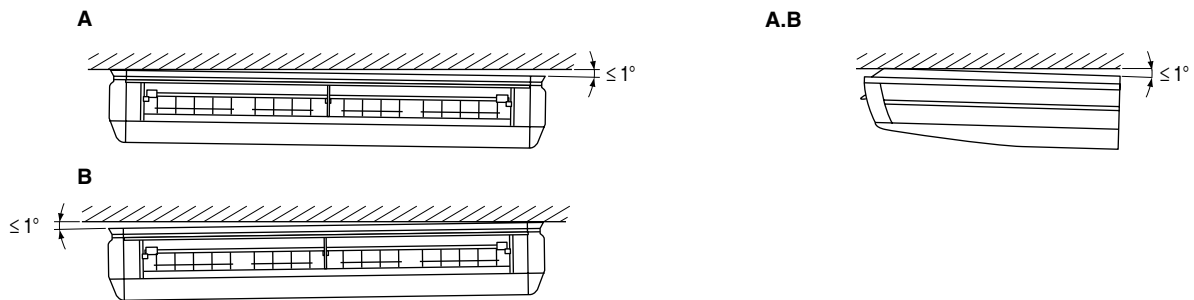

Fig. 11
- (5) When hanging the indoor unit main body, be sure to use a level or a plastic tube with water in it to make sure the drain piping is set either level or slightly tilted, in order to ensure proper drainage. (Refer to Fig. 11)